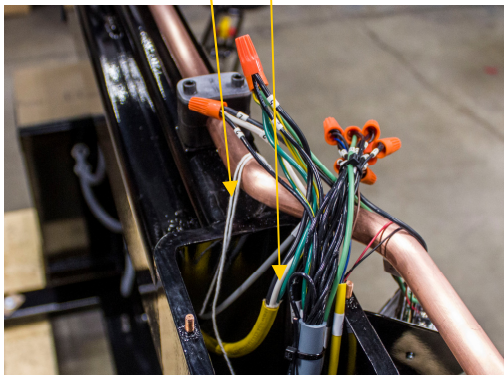

Figure 1
2. Place bowl feeder on machine into spaces provided, noting location of bowl exit. Remove the cover at the top of the spine, at the rear of the frame. Thread the Feeder Bowl Cable thru the frame with the leader (string) provided. Connect wires 2, 5 and GND, respectively, with wire nut provided. (See Figure 1)